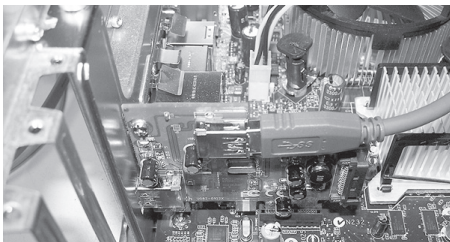

Figure 5
- Connect the Type-A connector of the included **USB 3.0 cable** to the internal Type-A USB port (USB 3.0 is recommended) in your system. See **Figure 5**.